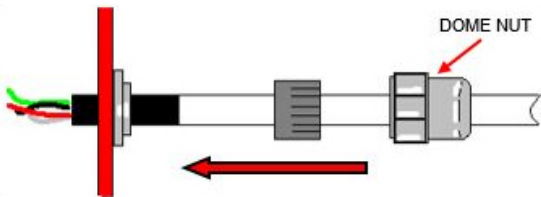

Figure 4: M5000 junction box lower cable gland
- Slide the black cable through the upper cable gland and pull the cable forward until the shielding is covered by the grounding prongs on the gland (see Figure 4).
- Slide the seal/grip and dome nut into position (see Figure 4). Visually confirm the shielding is in contact with the gland prongs, then tighten the dome nut to 5.2 Nm, securing the cable in place.